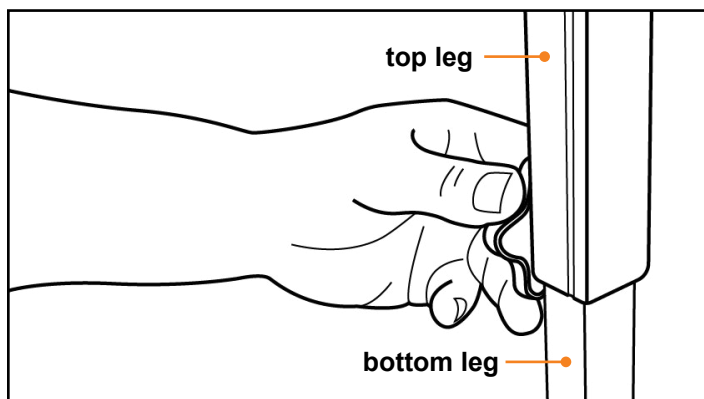

Fig.48
2. Loosen adjustment knob (Fig.48). Slide the bottom leg into the top leg. Re-tighten the adjustment knob.